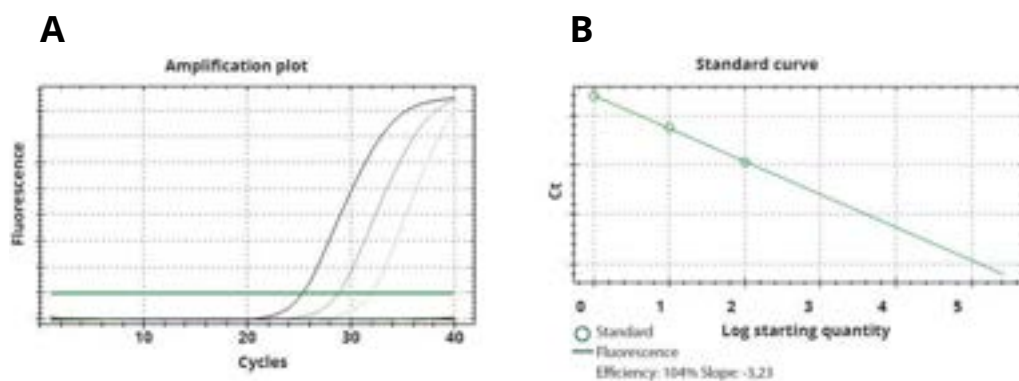

Figure 1.3. A: Amplification plots of three DNA concentrations. The middle curve is input DNA amount. B: Standard curve and calculations of PCR efficiency.
- Test at least three different concentrations of your template (or a corresponding biological replicate) (Figure 1.3, A)
PCR efficiency should fall between 80 - 120% with Ct value for the input DNA <30. (Figure 1.3).